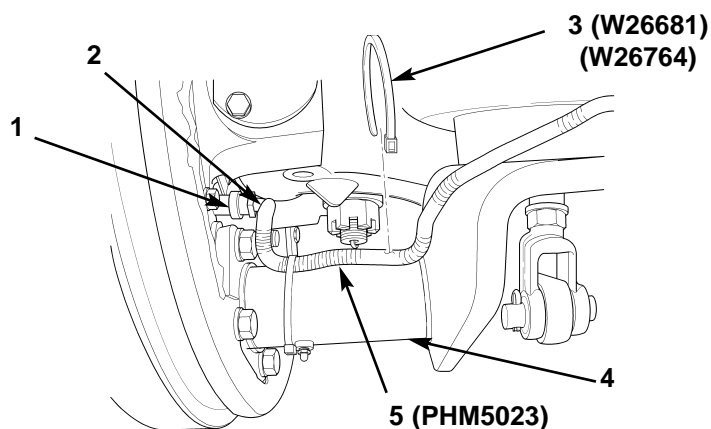

Figure 27. Installing Split Loom on Wheel Sensor Power Cable.
18. Measure and cut new bulk split loom (figure 27, item 5) to length of wheel sensor power cable (figure 27, item 2), and install split loom (figure 27, item 5) on power cable (figure 27, item 2).
19. Tape end of split loom (figure 27, item 5) to power cable at wheel sensor (figure 27, item 1) with electrical tape, and secure split loom (figure 27, item 5) to camshaft bracket (figure 27, item 4) with two new tie straps (figure 27, item 3).
20. Repeat steps 15 through 19 for installation of new wheel sensor (figure 27, item 1) at opposite end of front axle.